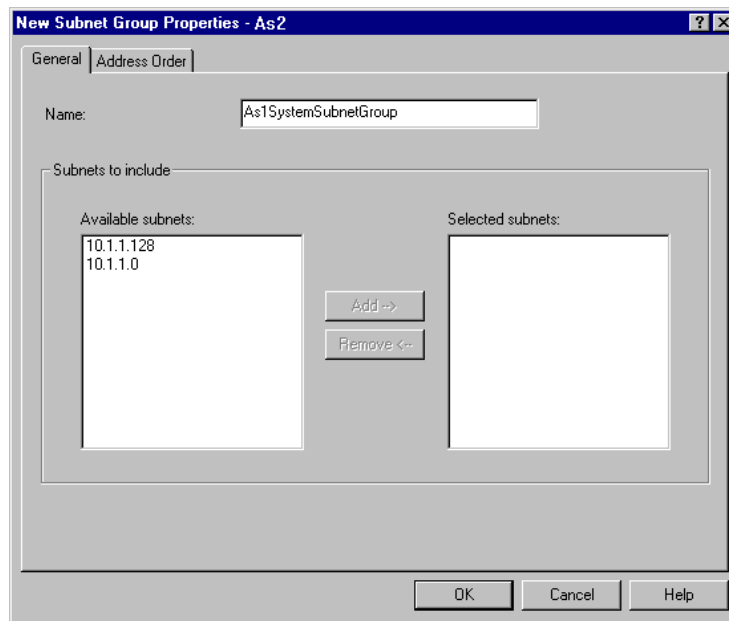

Figure 94. DHCP configuration - New Subnet Group Properties
3. Specify a valid description in the *Name* field. Blanks or special characters are not valid in this field. Refer to Figure 94 on page 186.